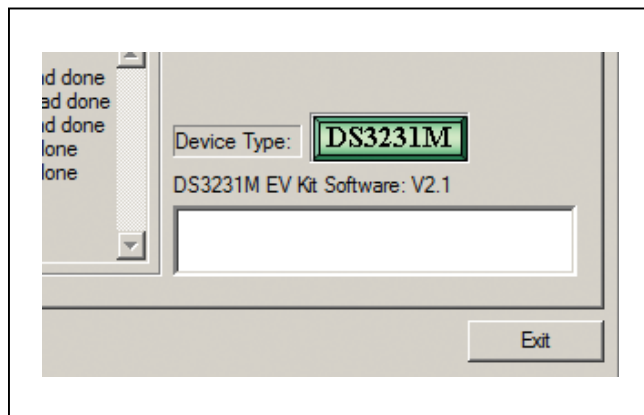

Figure 7. USB Version
- The software revision identity (see Figure 7)